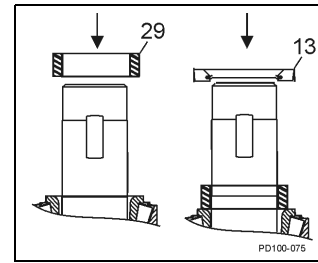

Figure 57 - Install Rear Seal
- Install gear spacers (Figure 57, item 29).
3. Install oil seals with spring facing out (Figure 57, item 13).